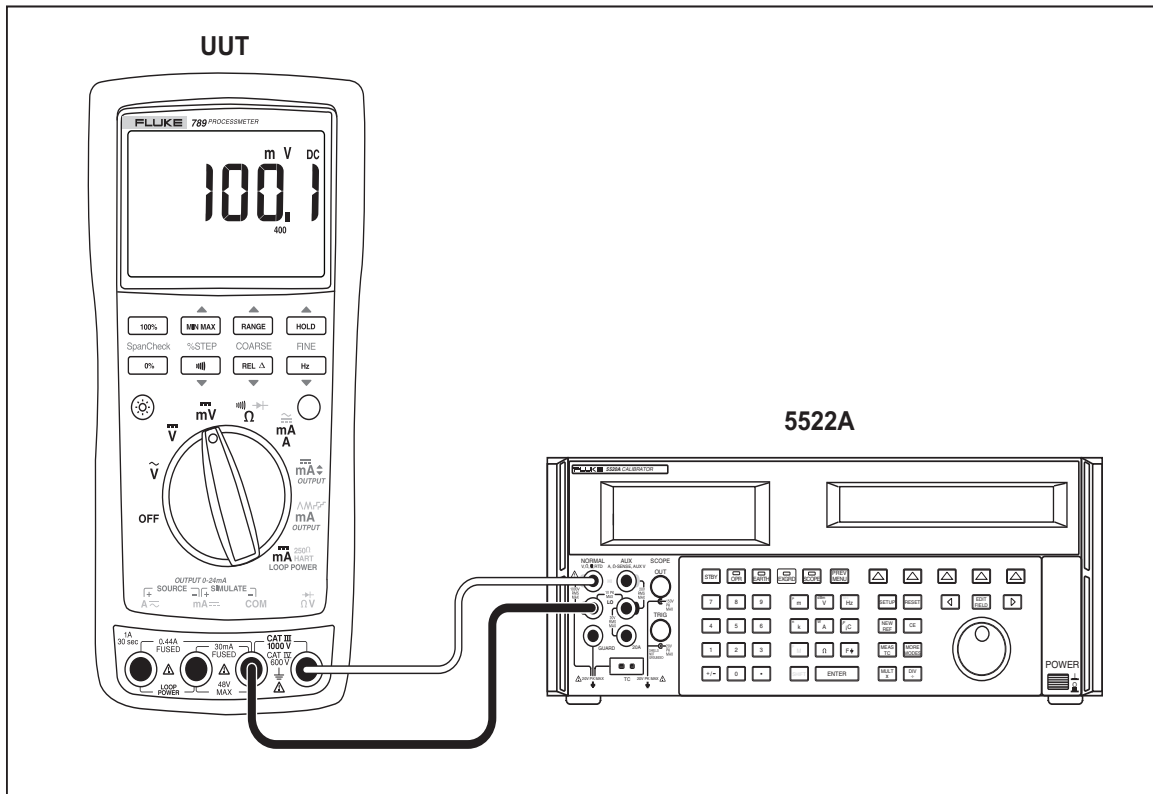

Figure 8. DC mV Measurement Test Connections
3. Connect the calibrator to the **COM** and $\overline{\Omega V}$ terminals on the UUT as shown in Figure 8.